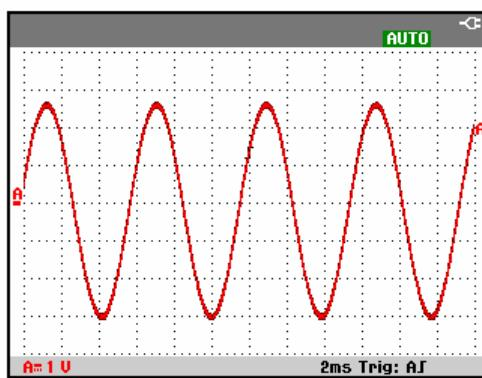

Figure 7. The Screen After an Auto Set
The waveform identifier (A) is visible on the right side of the screen, as shown in Figure 7. The input A zero icon at the left side of the screen identifies the ground level of the waveform.